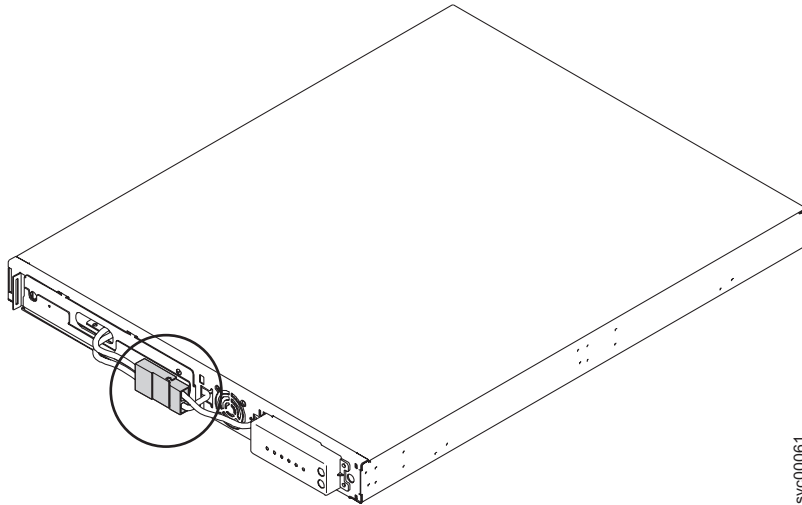

Figure 202. The 2145 UPS-1U internal battery connector
6. Disconnect the internal battery connector, which is circled in Figure 202 on page 482.